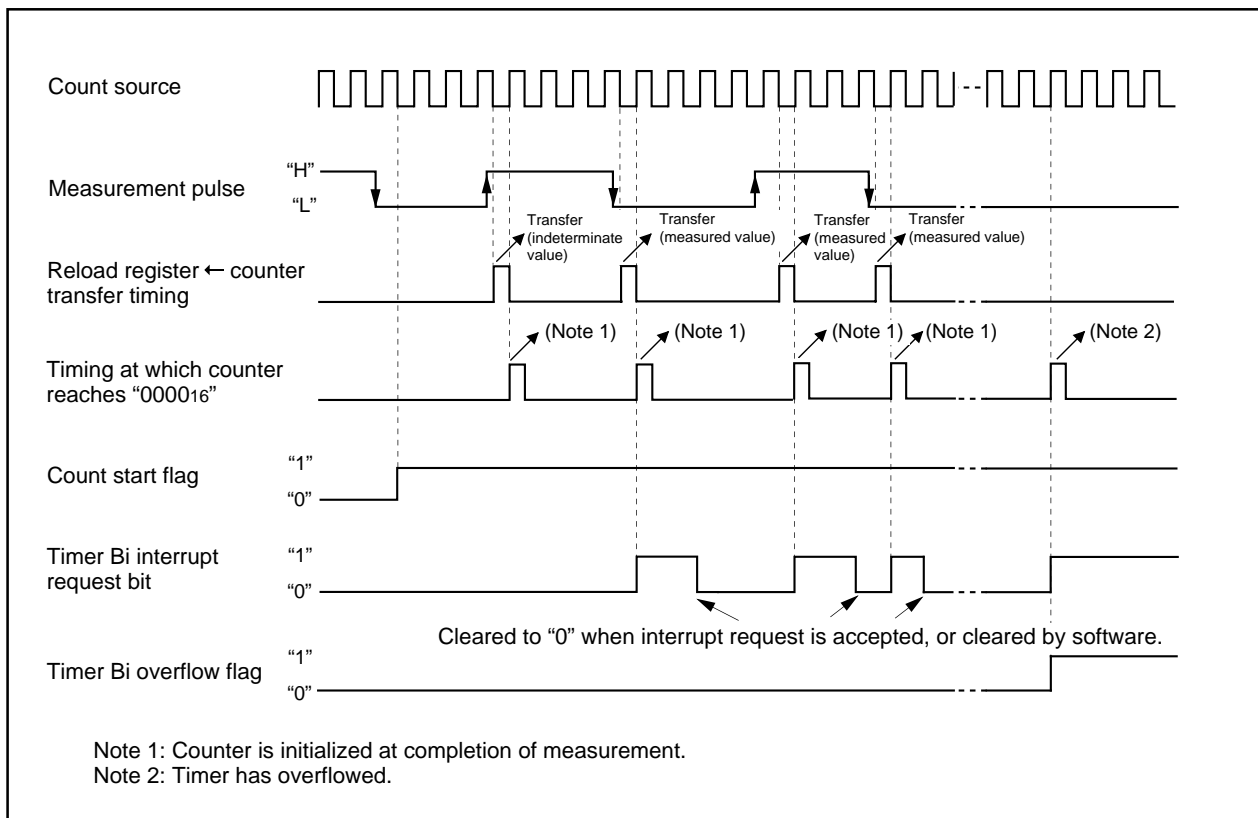

Figure 1.17.21. Operation timing when measuring a pulse width
1.17.20 shows the operation timing when measuring a pulse period. Figure 1.17.21 shows the operation